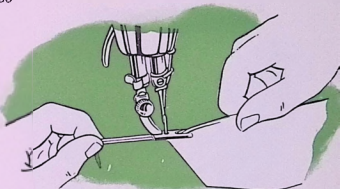

Fig. 36. Starting Hem at Very End of Material
3. Raise hemmer. Pull threads and hem slightly from you with left hand, then while holding threads, draw material toward you with right hand into scroll of hemmer until tacked end is caught in hemmer, as shown in Fig. 36.